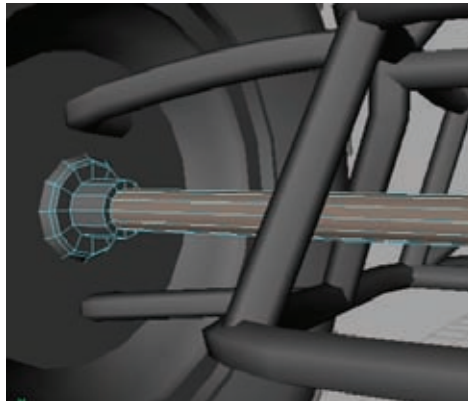

Figure 4.30
2. Select both end cap faces and extrude them outward a couple of times, with perhaps a Bevel or two thrown in for good measure, to create something like Figure 4.30.